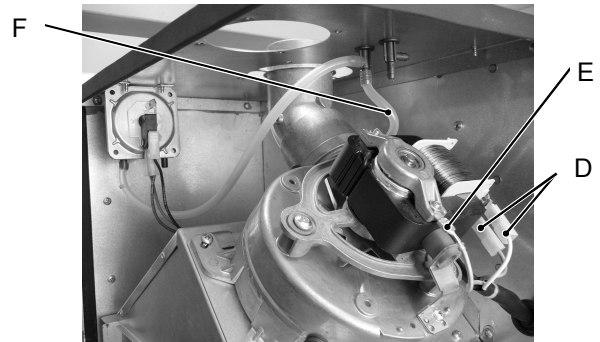

Figure 2
- 2) Disconnect the connectors D (Figure 2) and measure the electrical resistance of the motor that has to be about: 7.2 Ω.